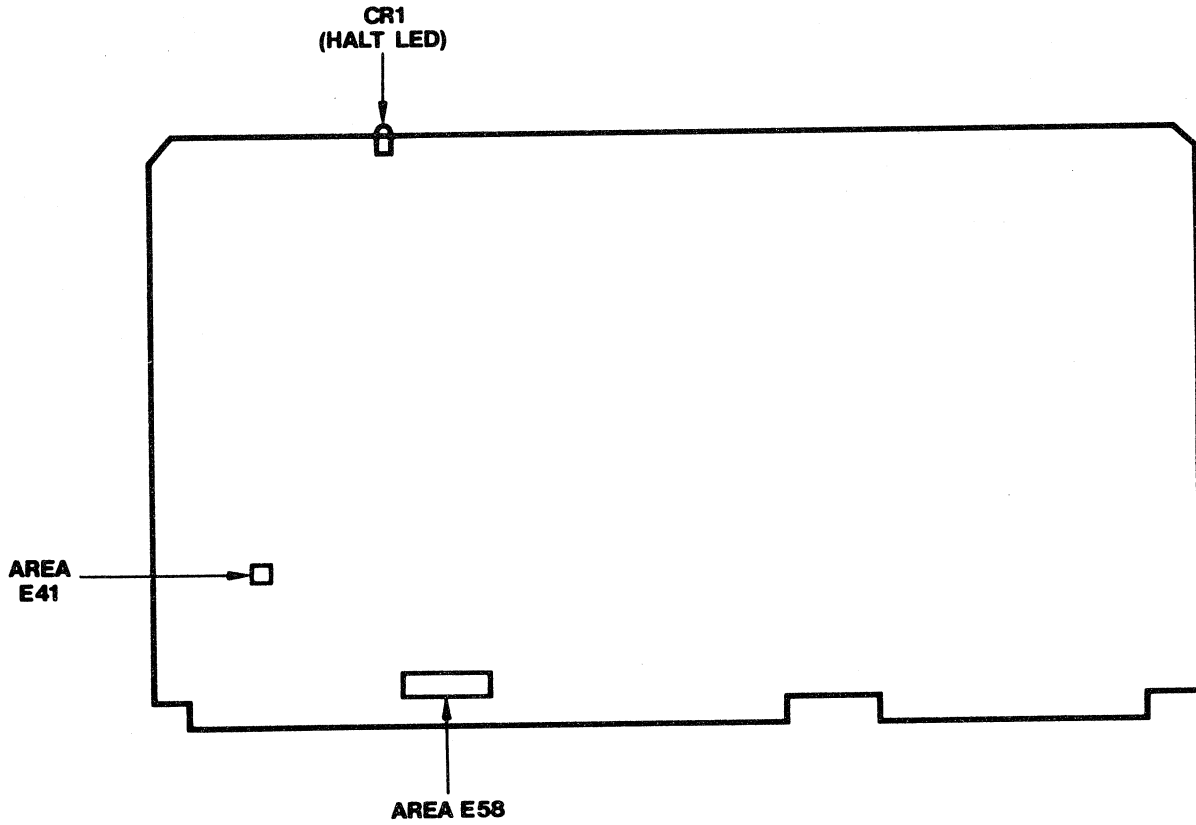

Figure 5-10 SIO-16 Board
Figure 5-10 illustrates the position of the Halt LED and configuration areas on the SIO-16 board. The following paragraph describes configuration areas on the SIO-16 module.
- **Area E41** is used to assign the SIO-16 board number (SIO 1 through SIO 4). The location of this configuration area is shown in Figure 5-10. Table 5-14 lists the SIO board number and Multibus interrupt level assigned by each combination of shorting plug positions. Board number assignment is required only for boards ordered separately; factory-installed boards have preassigned board numbers.
- **Area E58** is used to assign the SIO-16 Multibus interrupt (level 4 through 7). The location of this configuration area is shown in Figure 5-10. Table 5-14 lists the Multibus interrupt in conjunction with SIO board number assignment. Multibus interrupt level assignment is required only for boards ordered separately; factory-installed boards have preassigned interrupt levels.